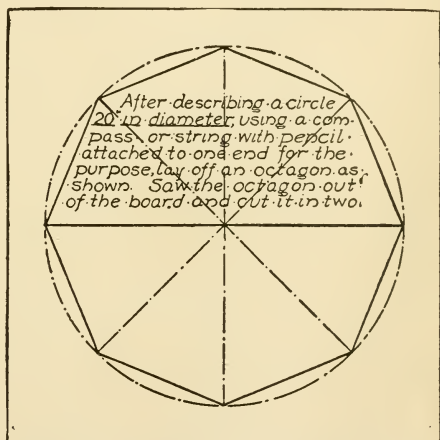

FIG. 77. — Make Gable-ends like This.
**The Gable-ends**, which are cut out as shown in Fig. 77. Make the partition between the nursery and ball-room (*H*) in the same way, with a door cut in it, as shown in Fig. 70.